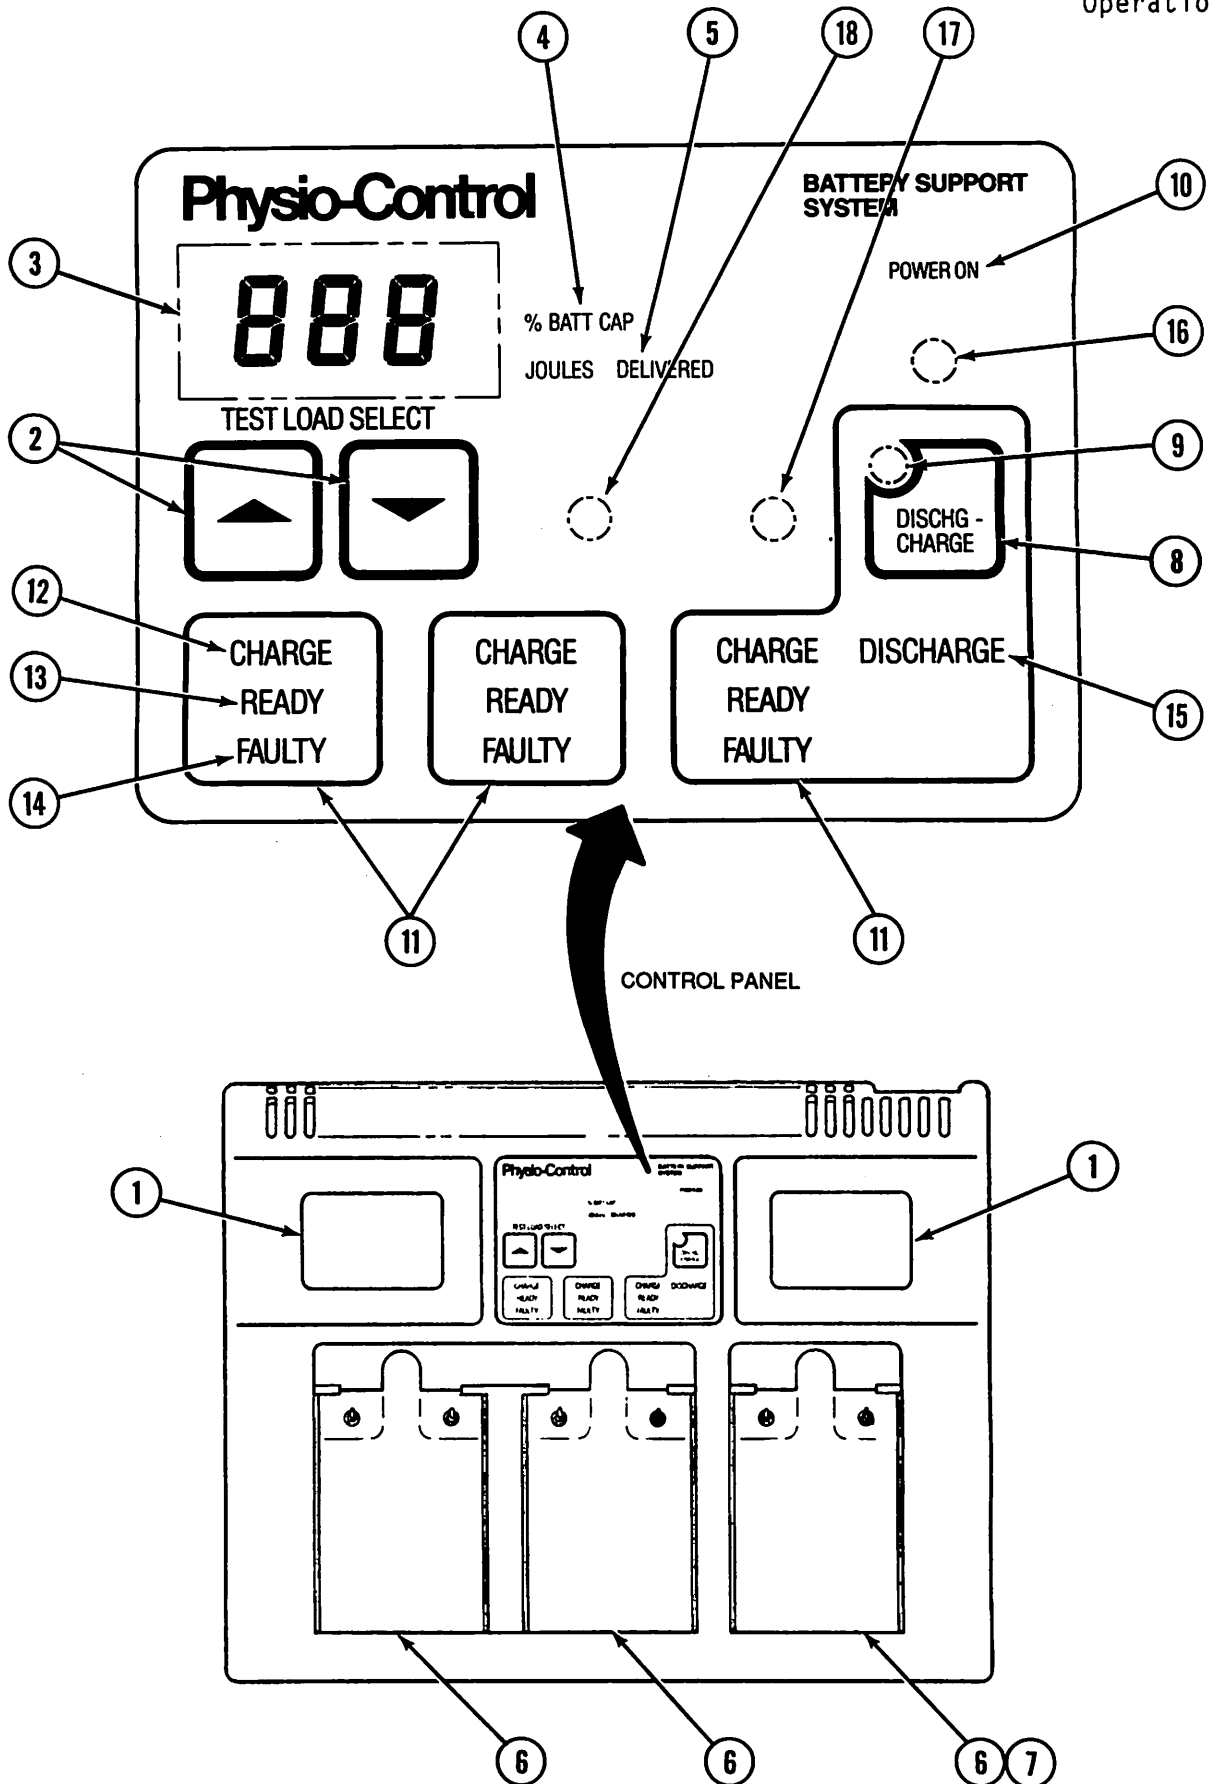

FIGURE 2-1. BATTERY SUPPORT SYSTEM CONTROLS AND INDICATORS
- A. The controls and indicators on the Battery Support System are shown in Figure 2-1. Each item on the figure is keyed to a corresponding number in Table 2-1. The table lists the nomenclature and briefly describes the function of each item.